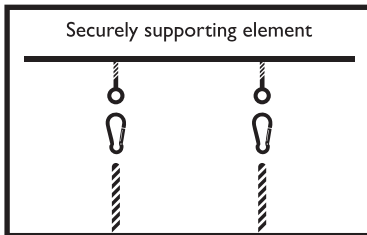

Fig. 1
8. Installation method: Installation the product on the horizontal bar by linking the metal ring with the connective strap and spring hook. See fig.1.